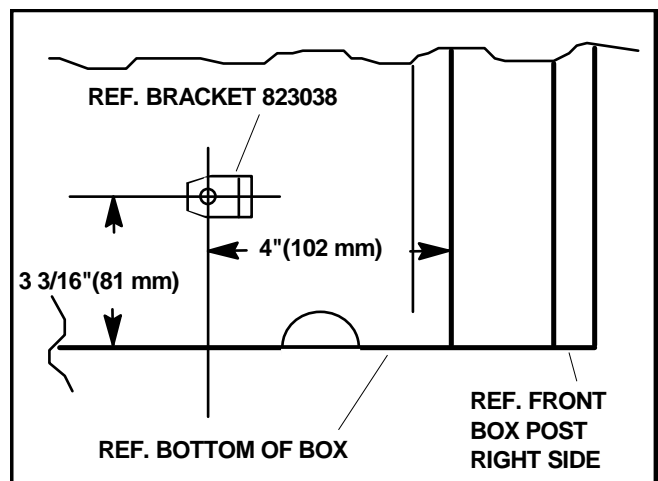

Figure 4
1. Mark the location as shown, lower portion of right box side panel (See Fig. 4). Drill one 11/32" (9 mm) diameter hole through box. The bracket will be in same location as bracket on left side. Secure with 5/16-18 x 5/8 screw (Part No. 306555) and flangelock nut (Part No. 548911).